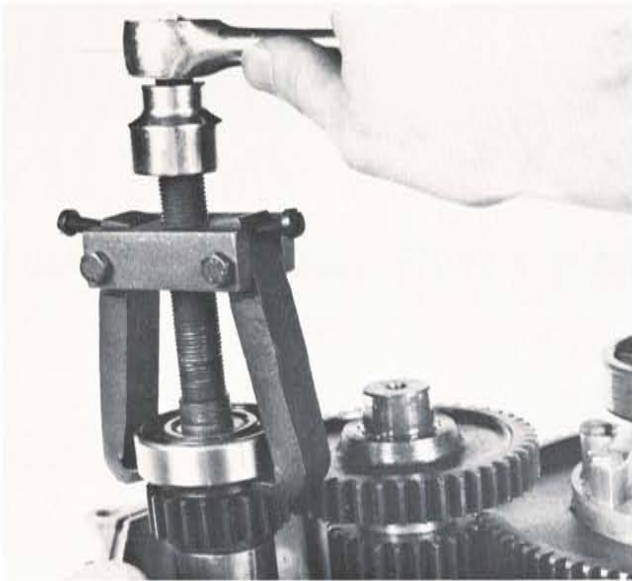

Fig 10
9. Remove bearings, gears and spacers from the two remaining transmission shafts. (Fig 10)